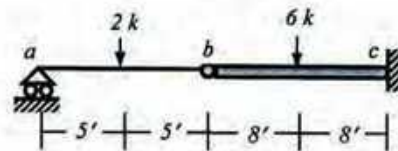

Fig.3
4. Calculate the vertical deflection at point b of the beam shown in *Fig.3*, using Virtual Work Method [Given: $EI = 40,000$ k-ft²].